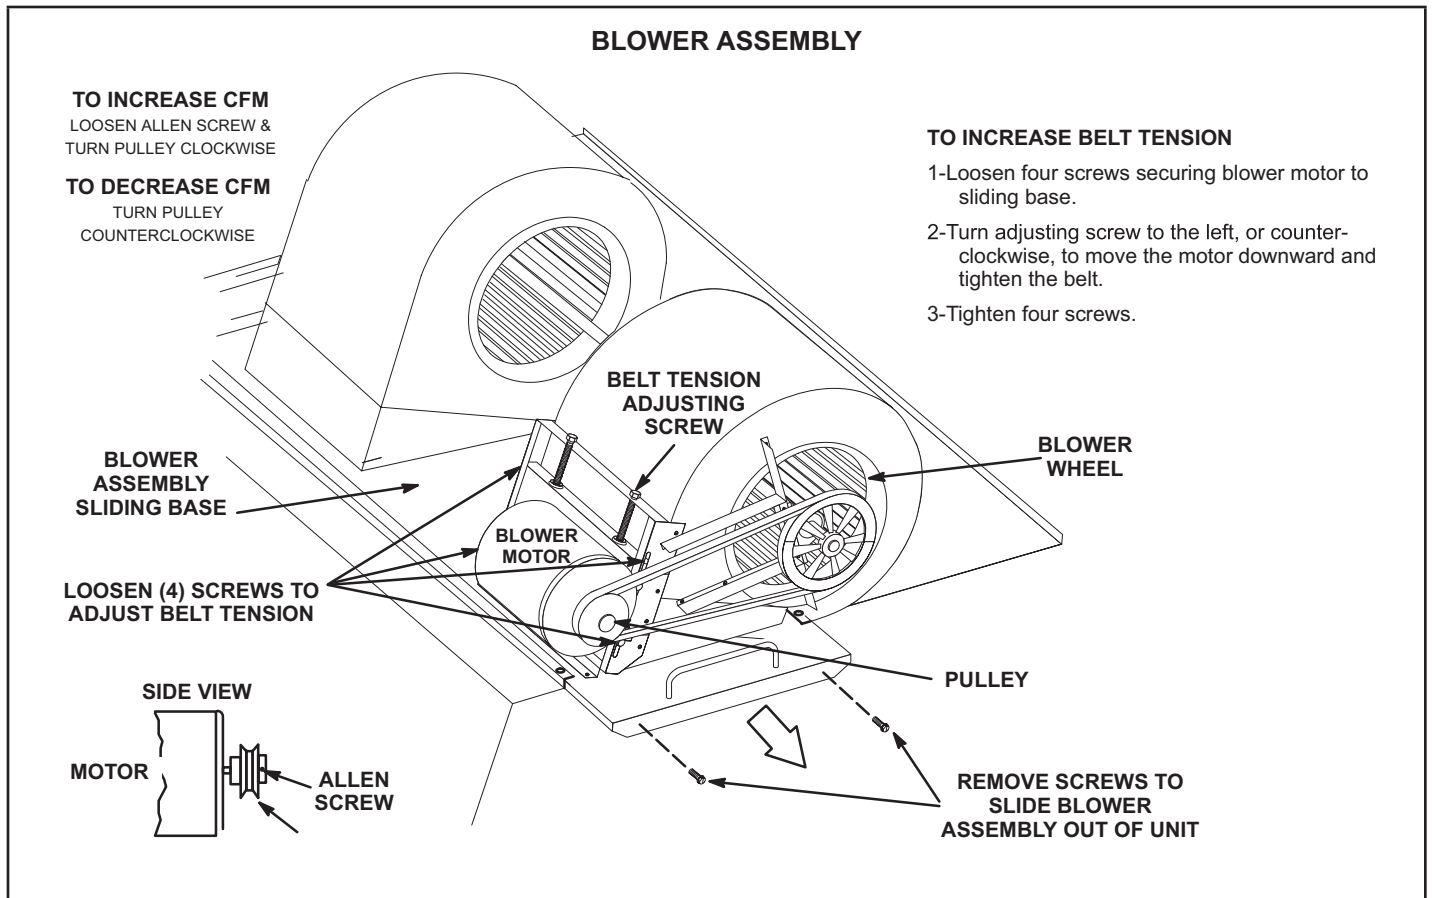

FIGURE 18
- 2 - Remove screws on either side of blower assembly sliding base. See FIGURE 18.
4 - The blower RPM can be adjusted at the motor pulley. Loosen Allen screw and turn adjustable pulley clockwise to increase CFM. Turn counterclockwise to decrease CFM. See FIGURE 18. Do not exceed minimum and maximum number of pulley turns as shown in TABLE 5.
- 1 - Loosen four screws securing blower motor to sliding base. See FIGURE 18.